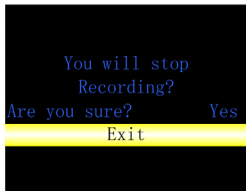

Figure 4-2-5-3 Stop record menu
- 2) In record status, the record setup menu is showed as Figure 4-2-5-3. It prompts whether to stop record or not, select YES to exit, stop record. Select NO to exit, it will still record.